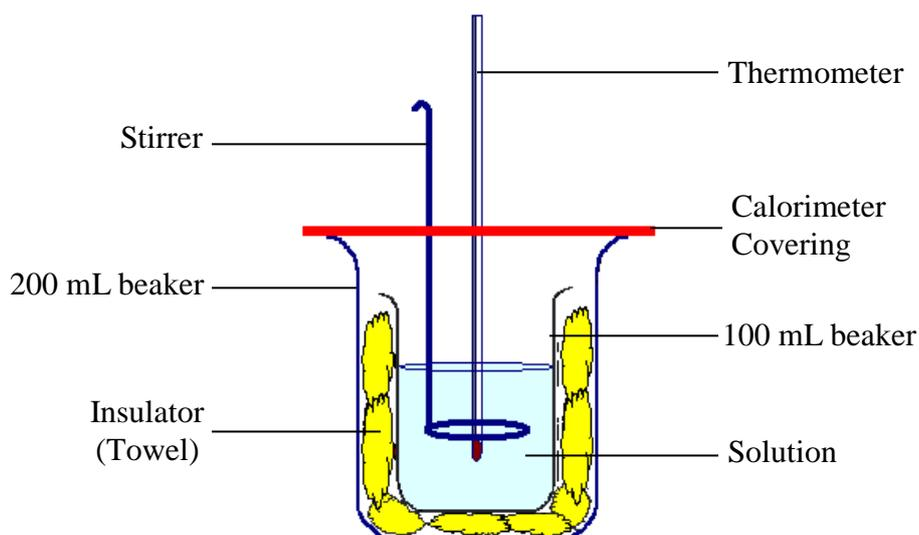

Figure 6.1: A Simple Calorimeter
1. Construct a simple calorimeter (see figure 6.1) using the 100 mL and 200 mL beakers and a small towel. Be sure to dry the inner beaker thoroughly before use.